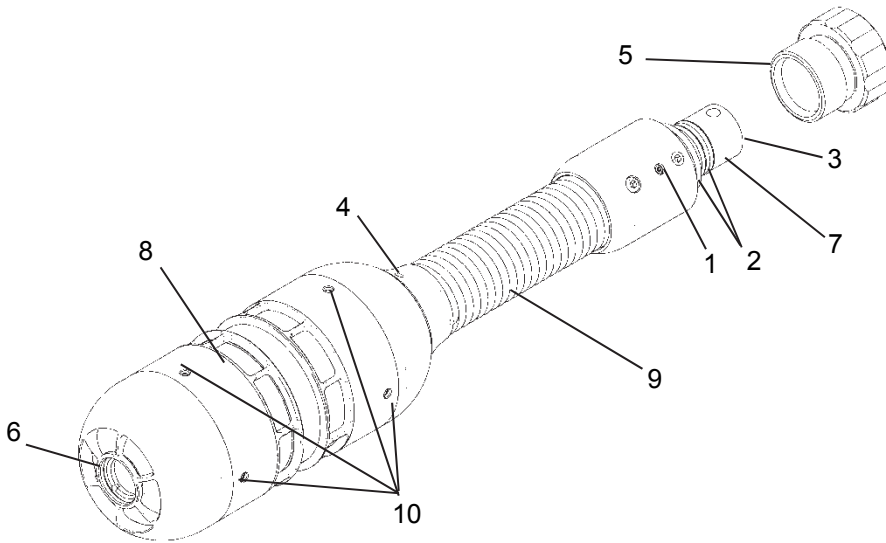

Figure 2.4 P455 Camera Preparation
1. Remove protective cap (item 5) from the rear of the camera and stow safely.
2. Check the 'O' rings (item 2) and replace if damaged. Apply a thin film of silicone grease.
3. Examine the slipring (item 3) at the rear for cleanliness and wear. Do not use if scratched or pitted. Clean with Ambersil Ambertron and apply a thin film of silicone grease.
4. Check the three M4x4 socket head grub screws (item 4) in hose connector for tightness.
5. Check that the certification label viewable through the side glass (item 8) is as shown in Figure 2.4.
6. Check the front window (item 6) and the side window (item 8) are not cracked. Clean using soft cloth and Ambersil Ambertron spray.
7. Check appearance of the flame path (item 7). Do not use if scratched or distorted. Read the note at the beginning of Section 2 about flame paths if you are unsure about inspecting them.
8. Check the camera body (item 8). Do not use camera if the body is dented or distorted. (See warning.)
9. Check hose (item 9) is not cracked or split.
10. Check three M2x4 socket head cap screws (item 1) are in place on the sonde connector.
11. Check the four M4 x 4 socket head grub screws in the front and rear skids (item 10) are in place. **If any screws are missing, they are to be replaced before the skid is used**